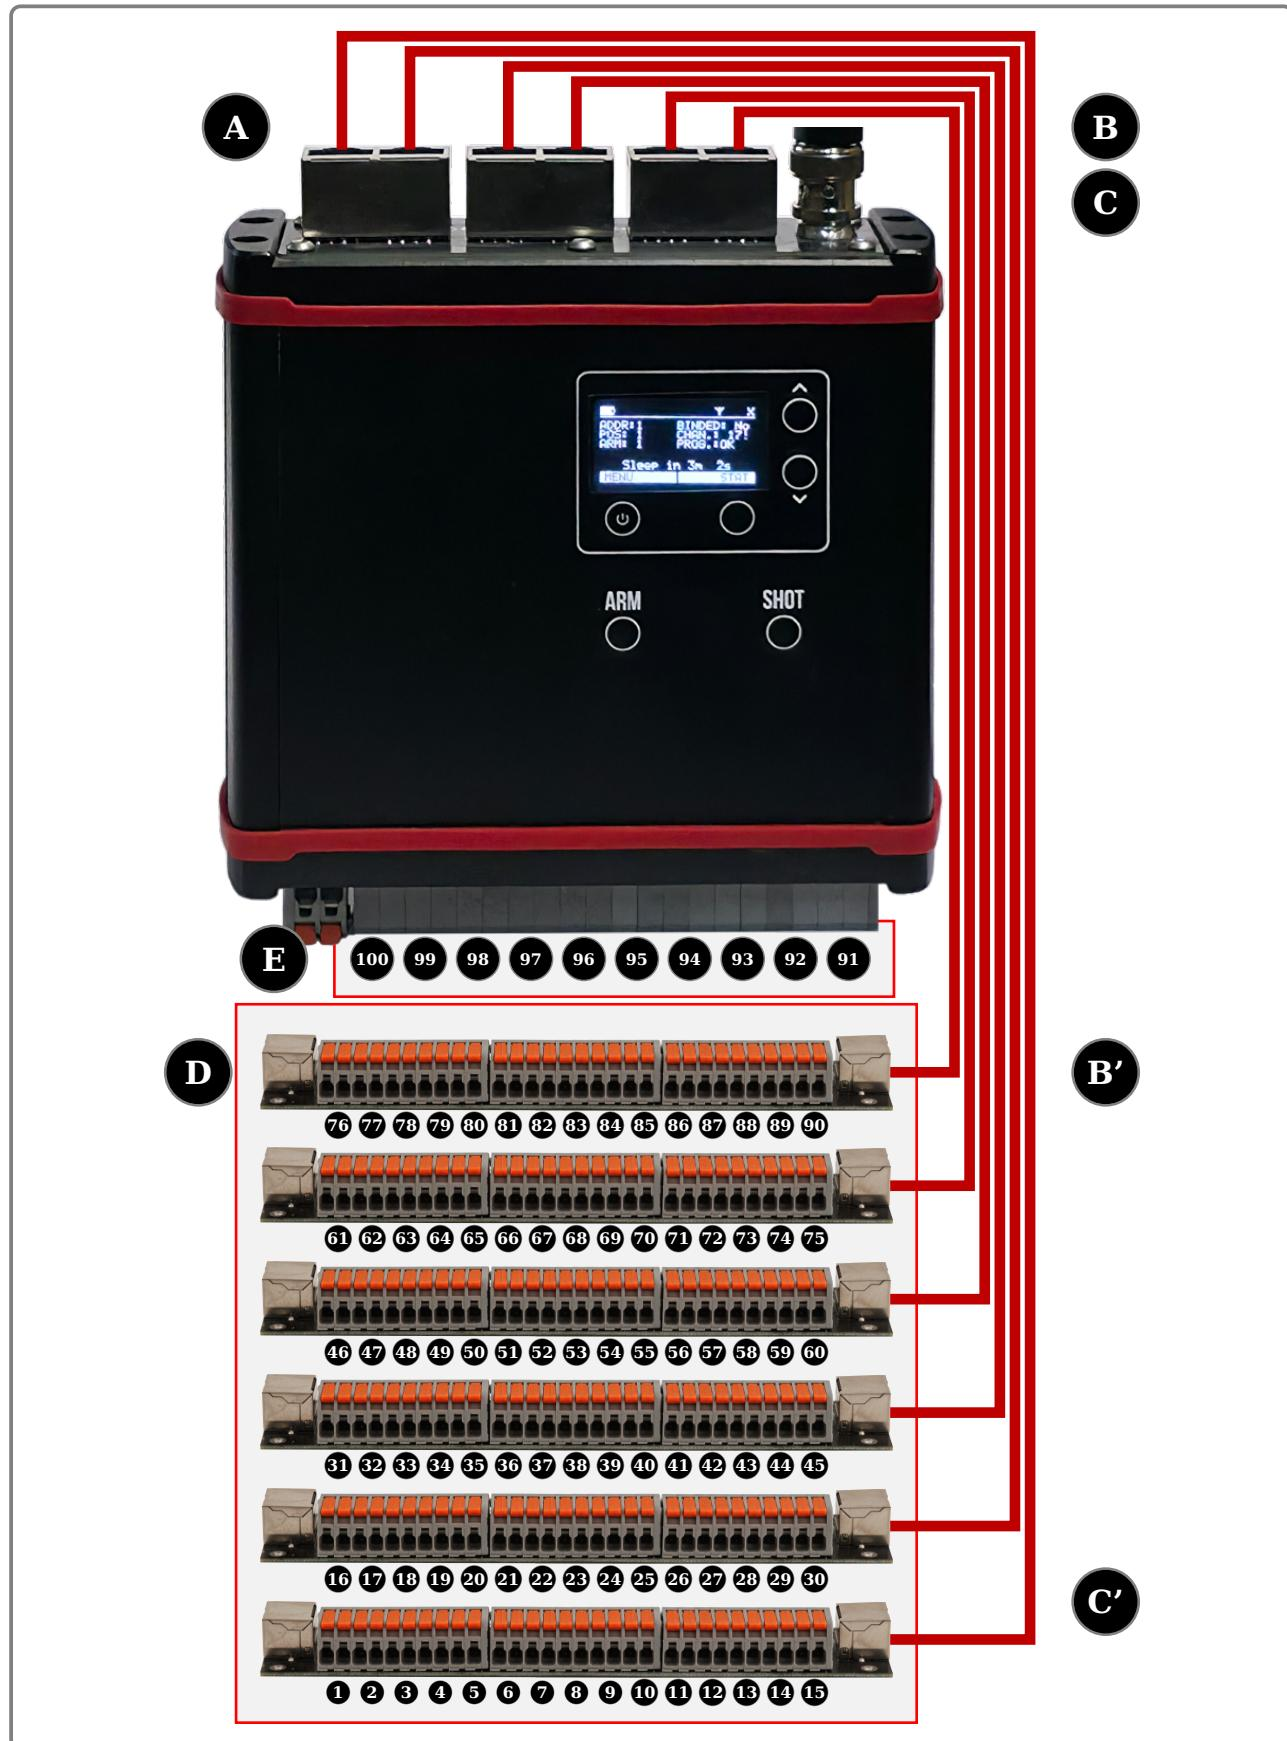

Figure 9: Receiver with expansion boards for up to 100 channels
It is possible to connect 6 expansion boards (D) to the SBOX-100 receiver via a special connector (B) and (C), see fig. 9 on the following page, increasing the external controllable channels from 10 to 100.
The channels output on the device's own terminal block on the bottom, see fig. 9 on the next page (E), always start with an offset of 90 addresses relative to the configured address number in the device configuration and are distributed from address 91 to 100.
When up to 6 expansion boards are connected to the receiver, see fig. 9 on page 20, the receiver's address space increases to 100 addresses.